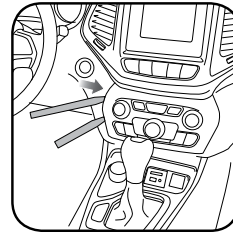

Fig. 1.1
- Pry out the climate panel to expose the two (2) screws that hold in the radio bezel. Disconnect the climate panel harness and put to the side. (Fig. 1.1, 1.2)